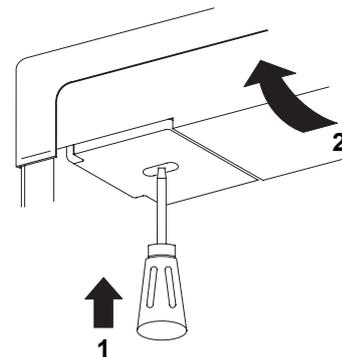

FIG. 4
- b) Carefully tilt the top decoration panel and lift up to remove from top frame, see fig. 4.